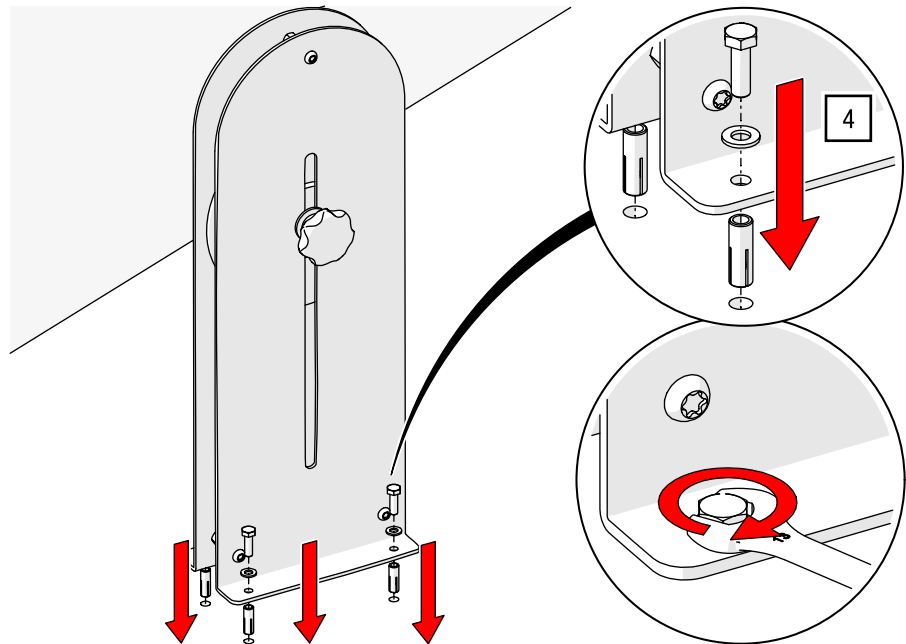

Fig. 119: Manual drive ROPE-DRIVE – Fitting the hemp rope floor pulley
4. Screw the hemp rope counter-tension pulley to the floor using mounting material suitable for the substrate (assembly according to manufacturer's instructions; example concrete floor / screed – see Fig. 119).